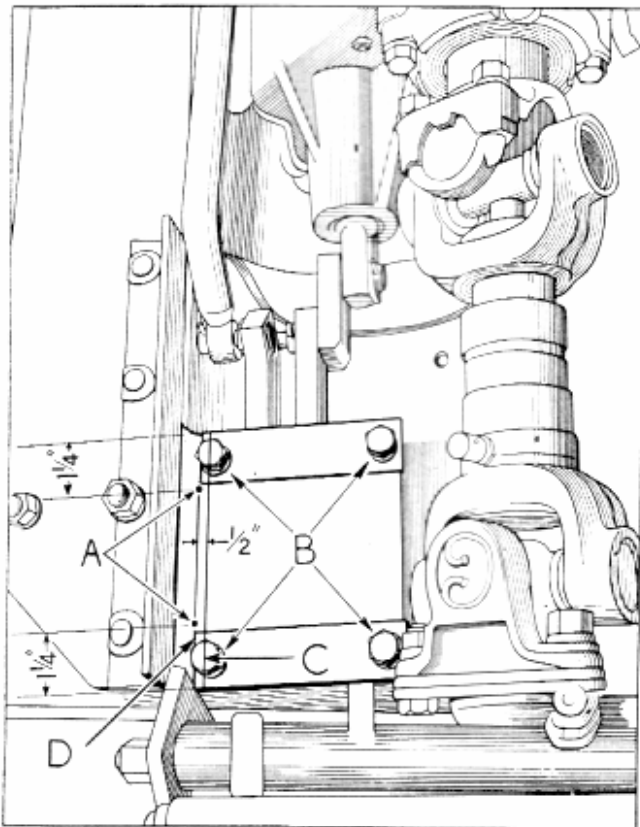

Fig. 39—Doweling the Shift Tower Gate Plate
6. Remove the four mounting bolts "B" Fig. 39, this will permit the shift tower to be lifted from the gate plate and shift rails from under the vehicle.
#### Adjustment and Dowelling (Refer to Fig. 39)
- From underneath the vehicle scribe a line "C" on the support bracket so that it passes through the centre line of the front and rear cap screws. Measure  $\frac{1}{2}$ " to the outside of this line and scribe another line "D", as shown in Fig. 39.